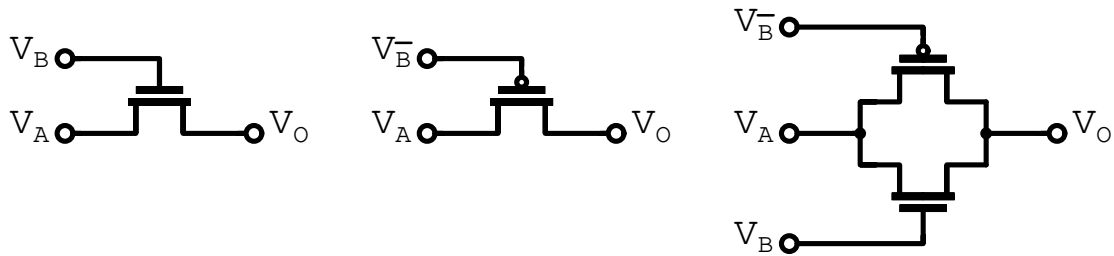
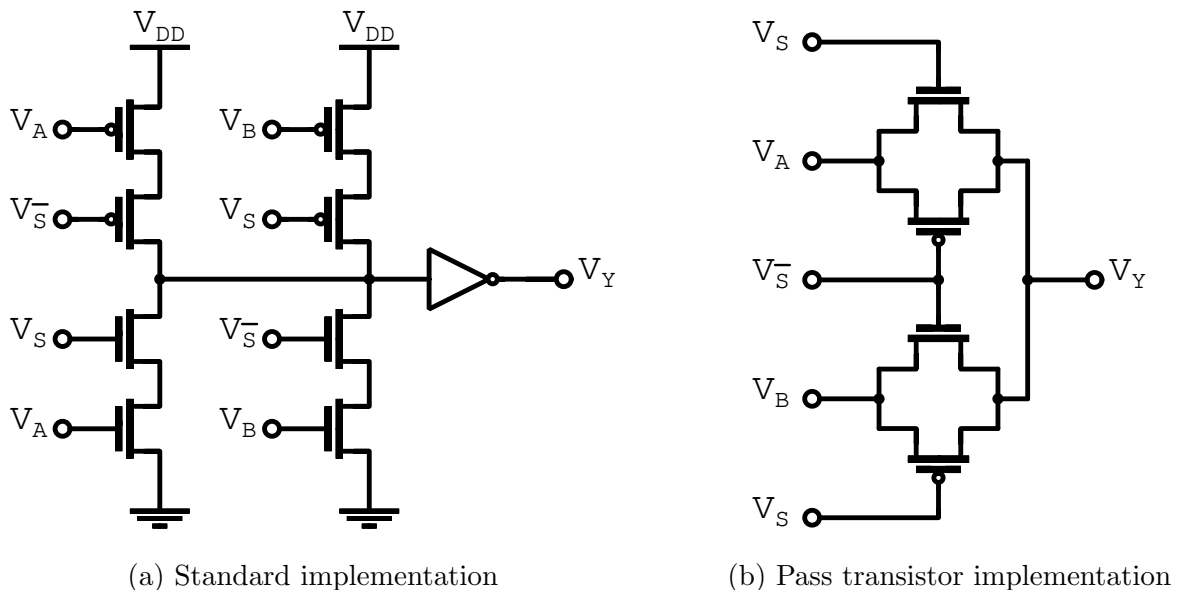

Figure 5: NMOS, PMOS and CMOS switch implementations
Figure 6: Multiplexer circuits
Pass Transistor Logic (PTL) offers a simple way to implement electrical switches for transferring voltage signals. Both NMOS and PMOS devices can be used for this purpose with each having its own limitations. The horizontal configurations shown in Figure 5 can help reduce the number of devices used to implement a digital function. This is illustrated with the 2-to-1 multiplexers in Figure 6. Although the smaller area is a valuable advantage, PTL devices have a significant drawback, which is to be demonstrated in this experiment.
for a PMOS, the source terminal is the one with the higher voltage. As an example, referring to the NMOS in Figure 5, if $V_A < V_O$, then V_A and V_O are the source and drain terminals, respectively.
Consider the NMOS PTL device in Figure 5. When the voltage applied to the gate is $V_B = V_{DD}$, a high logic voltage applied to the input V_A is transmitted to the output V_O . However, the NMOS turns off when $V_{GS} < V_{tn}$. Since the source terminal is always at a lower voltage, the output node stops charging when it reaches the value $V_O = V_{DD} - V_{tn}$, and cannot rise all the way to V_{DD} . This makes it a weak logic ‘1’. This issue does not occur for $V_A = 0$ V, rendering it a strong logic ‘0’.
1. In Figure 5, the NMOS inputs are $V_A = V_B = 5\text{ V}$, the threshold voltage is $V_{tn} = 2.8\text{ V}$, and the initial output voltage is $V_O = 0\text{ V}$. Provide an estimate for the output voltage.
2. In Figure 5, the PMOS inputs are $V_A = V_B = 0\text{ V}$, the threshold voltage is $V_{tp} = 3.2\text{ V}$, and the initial output voltage is $V_O = 5\text{ V}$. Provide an estimate for the output voltage.